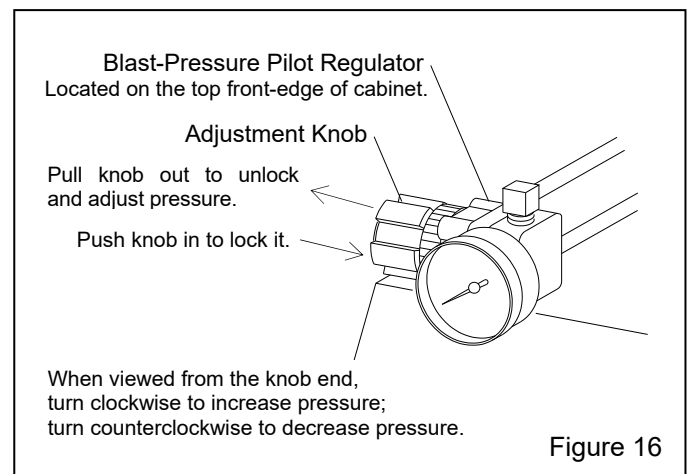

Figure 16
5.1 Blasting Pressure (pilot regulator) – Figure 16
5.1.4 To adjust pressure, unlock the knob by pulling it out, as shown in Figure 16, and turn it clockwise to increase pressure or counter-clockwise to decrease pressure. Once operating pressure is set, push the knob in to lock it and maintain the setting.